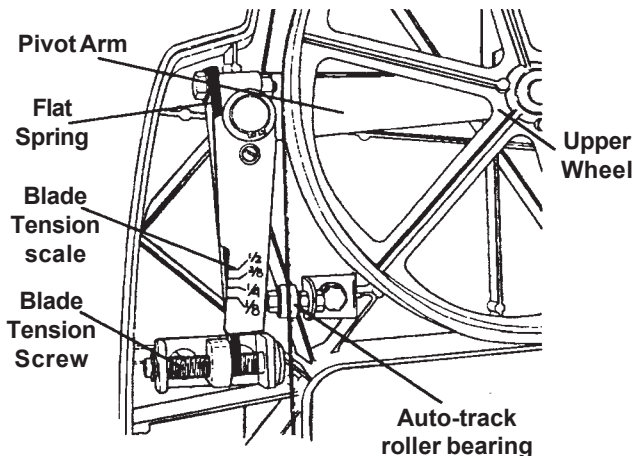

Fig. B-29
11. After you've spun the blade several times by hand, it should be centered on the three roller bearings, indicated in Figs. B-29 and B-30. The back of the blade should rest against the auto-track roller bearing and the lower blade guide roller bearing, and it should be no more than 1/64" away from the upper blade guide roller bearing. If the blade is not properly positioned on the bearings, follow the procedure described in "Adjusting Roller Bearings" in the Alignment section.